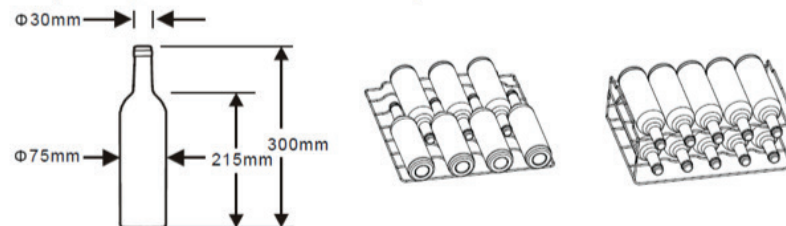

Fig. 1
**Shelving configuration:** The shelves in the wine chiller may be removed to suit various wine bottle shapes and sizes. The loading diagram (Fig. 1) shows how to fit the maximum amount of standard size and shape bottles. (See page 14 for instructions on how to remove a shelf)